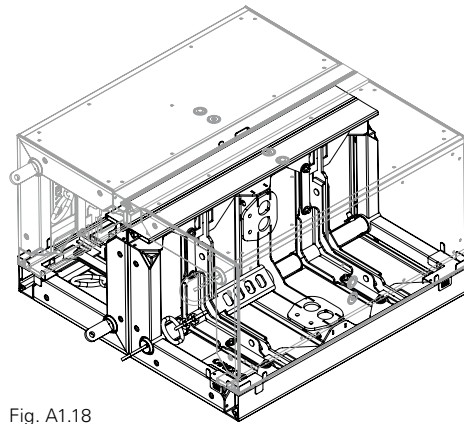

Fig. A1.18
- four shaft corners. Install Stacking Aids MX Flat (7) only on the corners at the bottom. (Fig. A1.18 + A1.19)